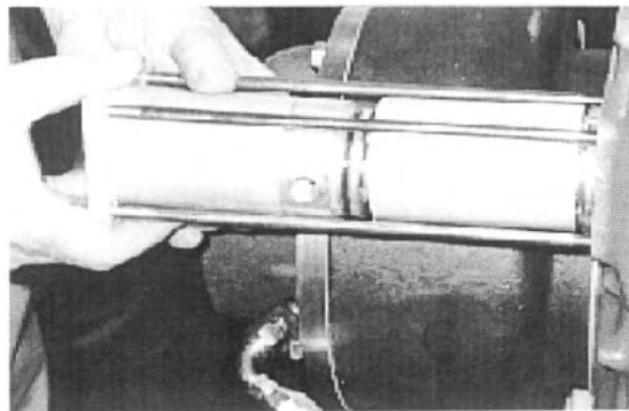

Fig. 7
9. Remove the air shift cylinder (and neutral, which is shown, if so equipped), located on the front side of the transfer case. *See Fig. 7.*